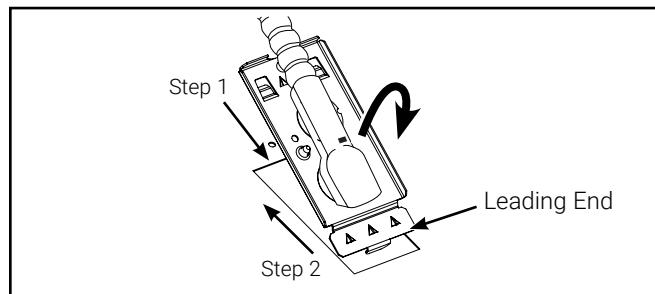

Figure 3.
4. Remove electrical access plate and remove necessary knockouts from access plate for attachment of electrical supply cable (Figure 3).
- Step 1: To insert access plate, rotate until leading end is inside the wireway (Figure 3).